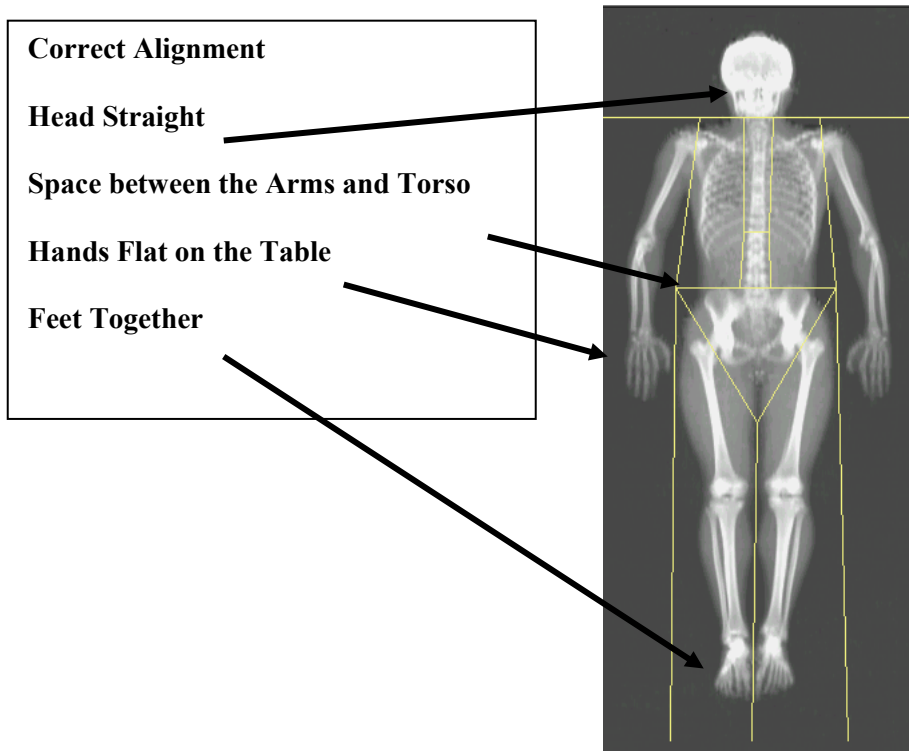

Figure 3-4. Correctly positioned whole body scan
- The legs must be positioned together with the feet relaxed and toes pointed upwards. Use the Velcro strap around the feet to support the legs in this position and to prevent any movement. See Figure 3-4 for proper positioning of the whole body scan.